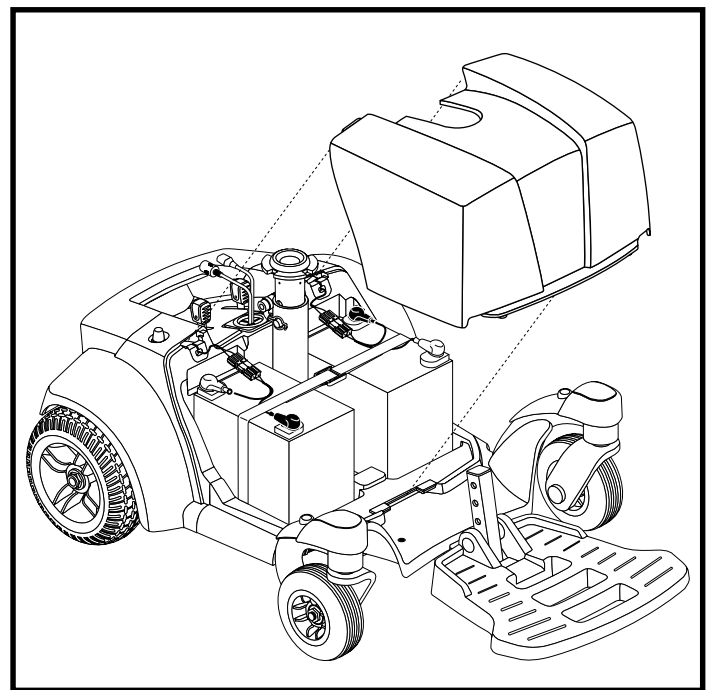

Figure 17. Shroud Removal
1. Lift up on the shroud and slide the tabs out as shown in figure 17.
6. Reconnect the two (2) battery leads to the battery terminals. Make sure the red lead is connected to the (+) positive terminal and the black lead is connected to the (-) negative terminal.
8. Reinstall the shroud by aligning the tabs as shown in figure 17 and pressing down.